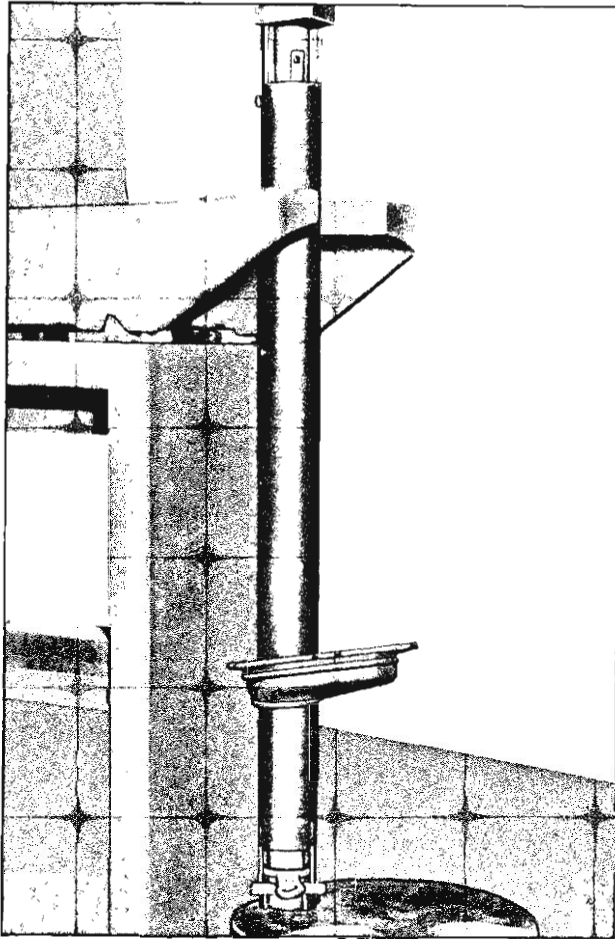

Fig. 19—Pressing Shifter Tube
**NOTE:** In some tolerance stack-up cases it may be necessary to use a press as shown in Figure 19. Be careful not to damage shifter tube or mast jacket. If proper press is not available, use a flat nosed drift and tap shifter tube bearing through three tab openings.